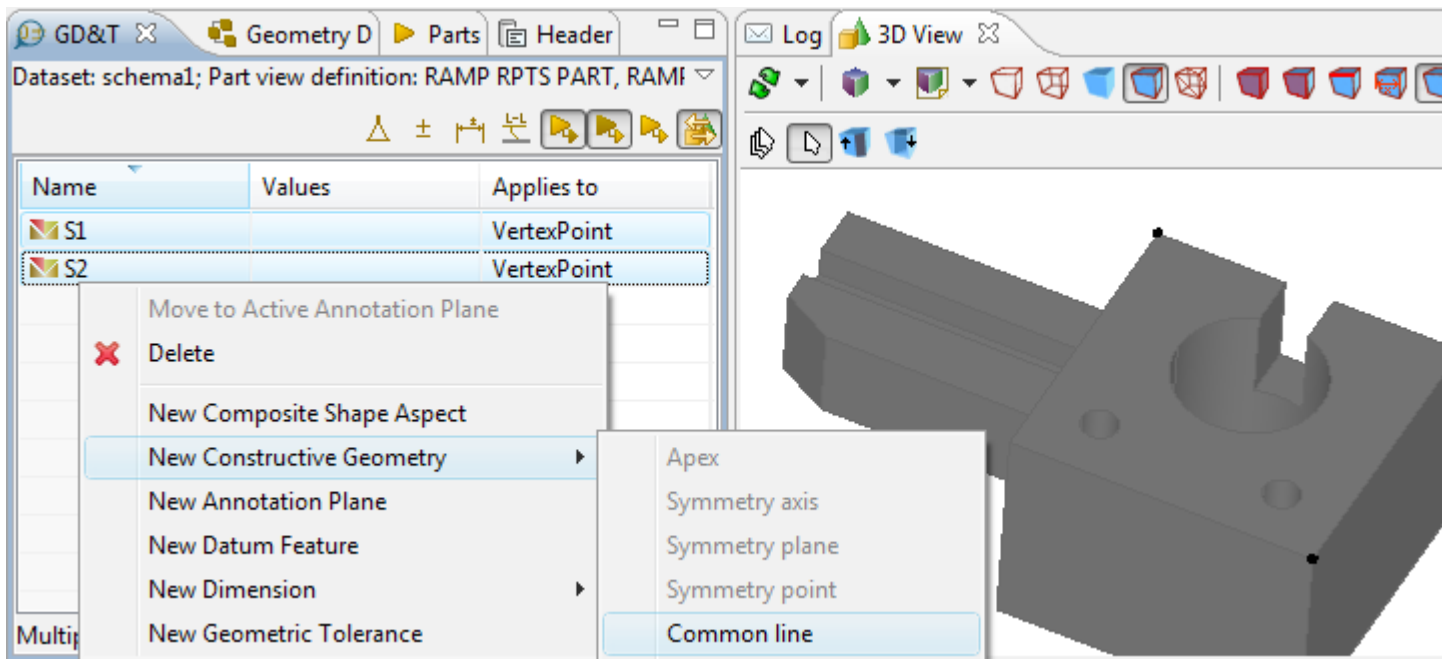

Figure 1. Selected items: two vertex point items, menu item to create common line in GD&T view and two points in 3D View
- Right click and select **Create Constructive Geometry -> Common Line** item in the appeared context sensitive menu (see Figure 1).